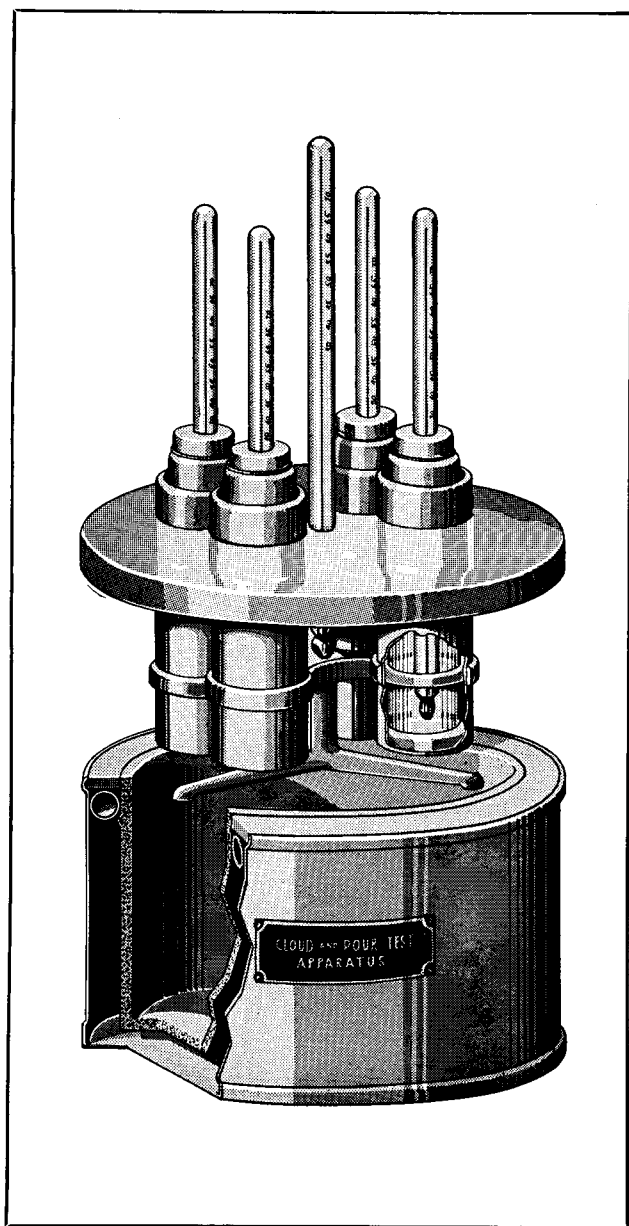

FIG. 6. Apparatus for Pour Test
**Apparatus.** The test jar (see Figure 6) shall be clear glass, of cylindrical shape, approximately  $1\frac{1}{4}$  in. inside diameter and  $4\frac{1}{2}$  to 5 in. high, with a flat bottom. An ordinary 4 oz. oil sample bottle may be used if the test jar is not available.